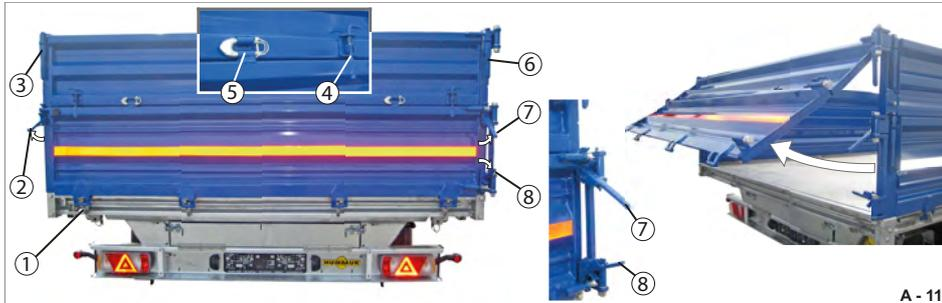

Fig. 119 Swinging gate combination in pendulum mode
The platform gate attachment locks (Fig. 119/3 & Fig. 119/6), hinges (Fig. 119/5), locking bolts (Fig. 119/4) must remain closed!
- ▶ Unlock the lower right lock of the base platform gate (Fig. 119/4).
- ▶ Unlock the central locking system (Fig. 119/1).
- ▶ Unlock the upper locks of the base platform gate (Fig. 119/2 & Fig. 119/7).
The base platform gate is connected to the platform gate attachment with hinges (Fig. 119/5).
- ▶ Close the central locking system (Fig. 119/1).
- ▶ Lock the lower right lock of the base platform gate (Fig. 119/8).
- ▶ Fasten the upper locks of the base platform gate (Fig. 119/2 & Fig. 119/7).